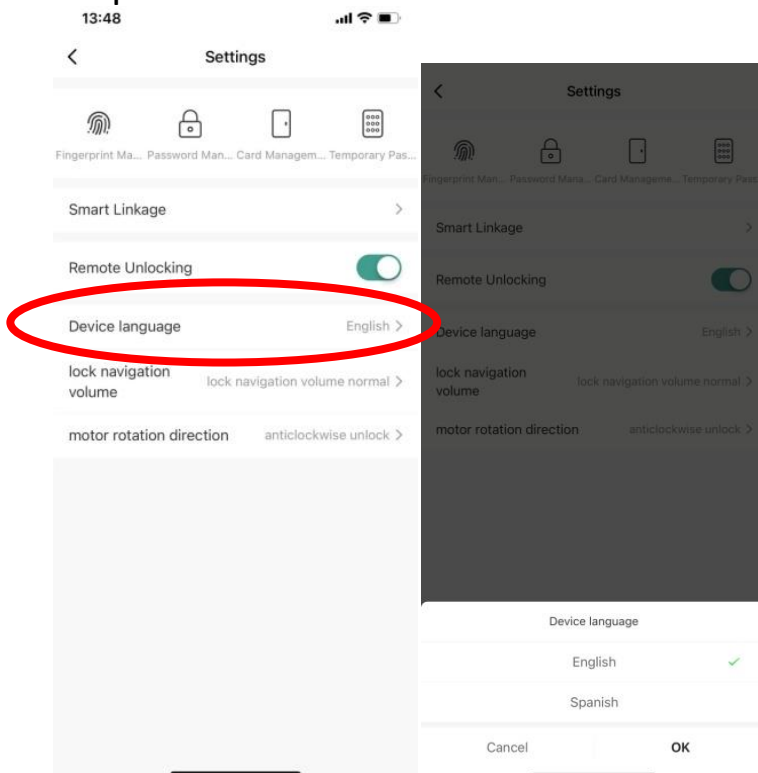

Figure P-9
(9) Choose Languages(See Figure P-9)